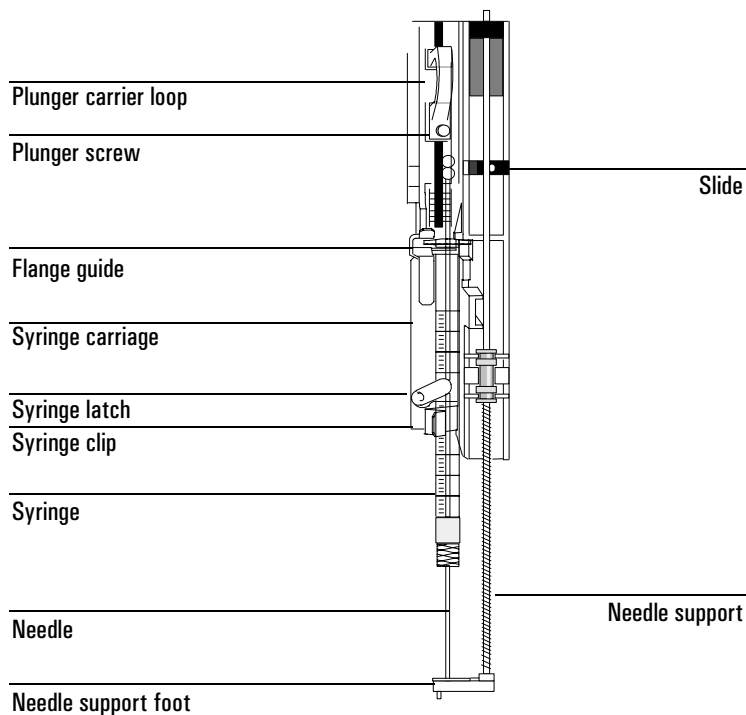

Figure 11 Syringe carriage and needle support with needle installed
9. Check that the needle is aligned with the needle guide in the foot by moving the slide up and down. The needle should slide smoothly in the needle guide. See Figure 11.